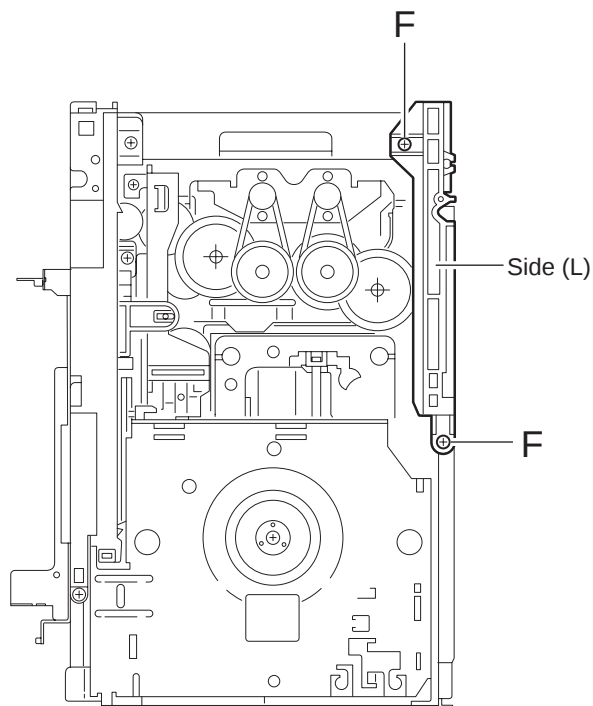

Fig.9
3.2.5 Removing the side (L)/ tray switch board (See Figs.9 to 11)